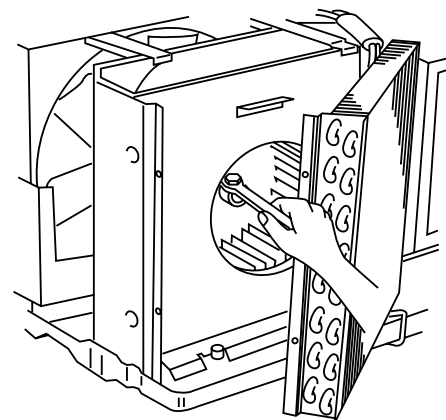

Fig. 24
- (1) Loosen a nut holding blower wheel on motor shaft with hex wrench. (Fig. 24)
- (2) Extract the blower wheel.